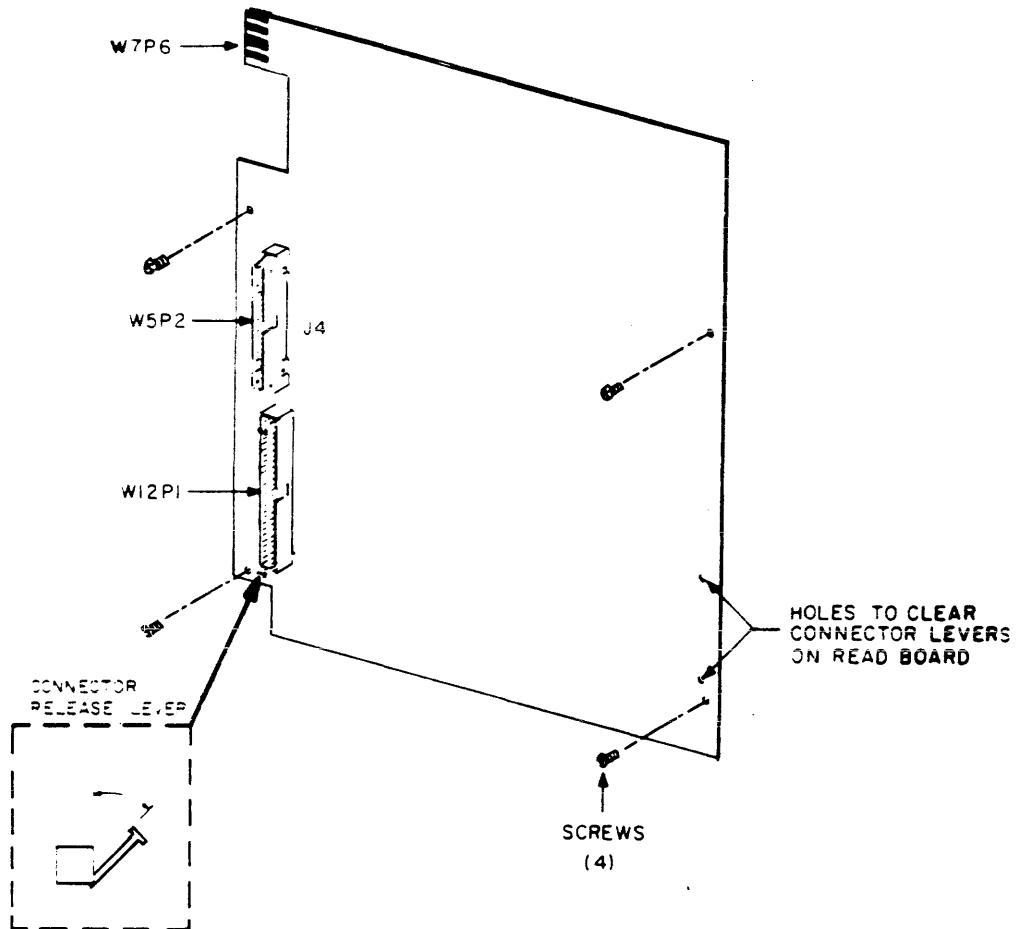

Figure 5-27. WRITE DRIVER MODULE CONNECTORS
2. Completely loosen both thumbwheels (top and bottom) to partially release the modules from the logic cage (Figure 5-26). Remove connectors W5P2 (to read/write head), W7P6, and W12P1 from the Write Driver Module (Figure 5-27).
11. If you need to replace the Read Amplifier or Write Driver module, separate them by removing four standoff screws (Figures 5-27 and 5-28).
3. Secure the Write Driver Module to the read amplifier using four screws (Figures 5-27 and 5-28).